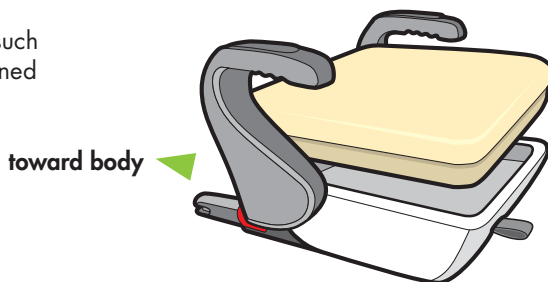

Figure 29
1. Place the base frame right side up with the LATCH connectors pointing toward your body, as shown in **Figure 29**.